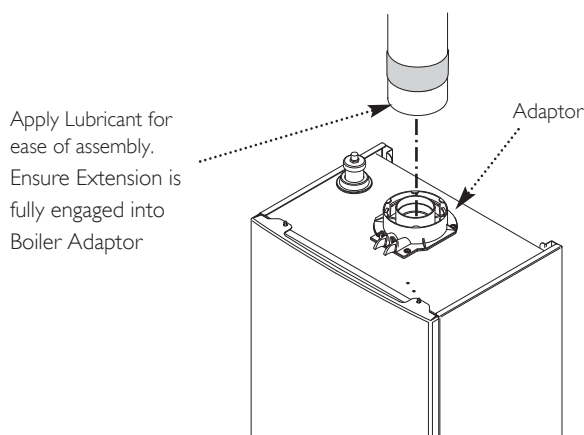

Fig. 54
17. Engage the extension into the adaptor up to this position (Fig. 54). Once the installation of the flue is complete and all support brackets are securely in place remove the tape.